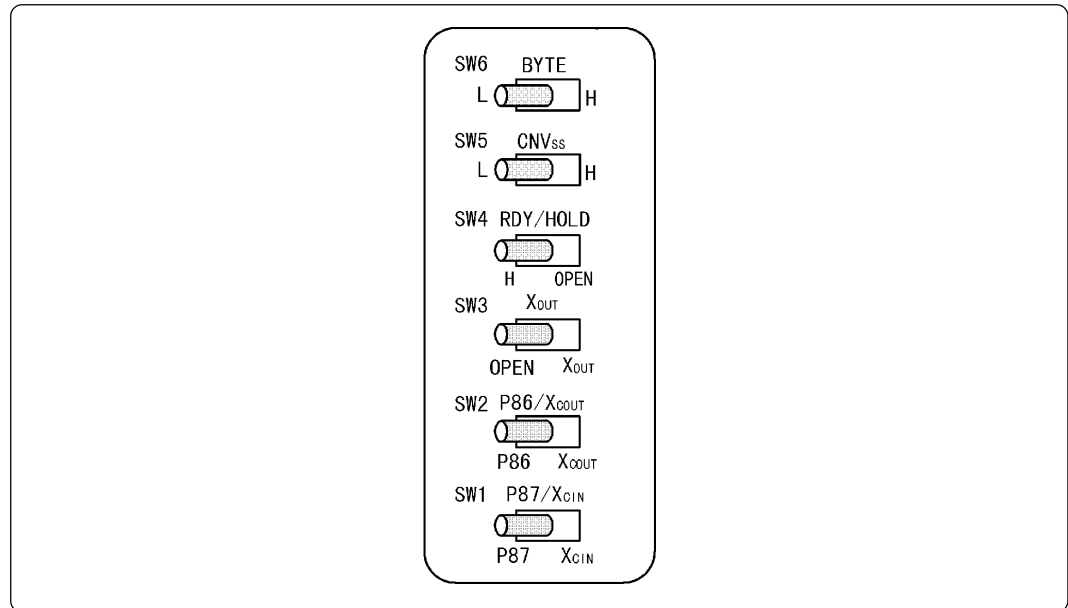

Figure 4.4 Switch settings when running the self-check
- (1) Set the switches in the emulation pod same as the factory setting (see Figure 4.4).
- (2) When the target system is connected, disconnect the target system.
- (3) Within 2 seconds of activating power to the emulator, press the RESET button on the emulator front panel to switch the emulator to maintenance mode.
- (4) Check the "SAFE" LED starts flashing and then press the RESET button again.
- (5) The self-check will start. If the normal result is displayed in about 1 minute, the self-check has terminated normally.